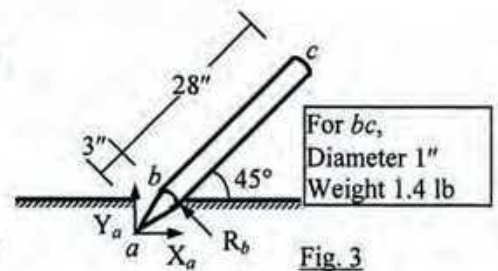

Fig. 3
3. Fig. 3 shows a cricket stump (weighing 1.4 lb) abc inclined 45° with the horizontal. At section b of the stump, calculate the